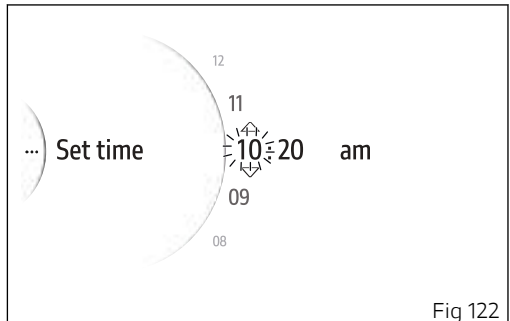

Fig 122
- Use buttons (1) and (2) from the Interactive Menu to select the "Setting menu" item and press ENTER (3).
- Select the "Date and time" item and press ENTER (3).
- Select the "Set time" item and press ENTER (3).
The hour number becomes flashing and is displayed with two arrows placed above and below it; the available values are also displayed (Fig 122). Use buttons (1) and (2) to scroll and select the desired value. Press ENTER (3) to confirm and move on to the following parameter.